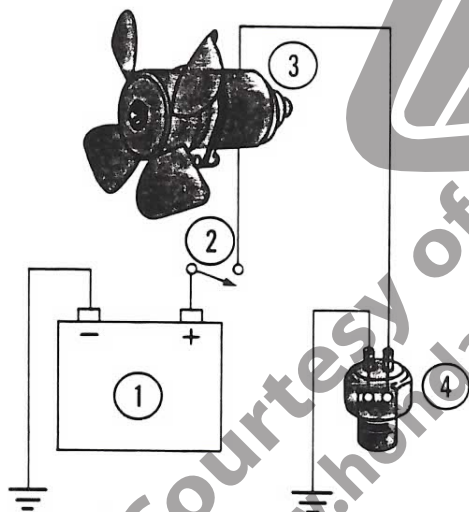

Fig. 101 Cooling Fan Circuit
The Honda GL-1000 has an electrically driven fan behind the radiator. Fan operation is required only when the coolant (a 50-50 mixture of water and ethylene glycol anti-freeze) temperature exceeds the desired operating range. The fan motor (3) (Fig. 101) is therefore connected in series with a thermostatic switch (4). When coolant temperature reaches a threshold of 98° - 102°C (208° - 215°F), the thermostatic switch closes, and the fan will operate until coolant temperature is lowered enough to open the thermostatic switch, or until the main switch (2) is turned off manually.